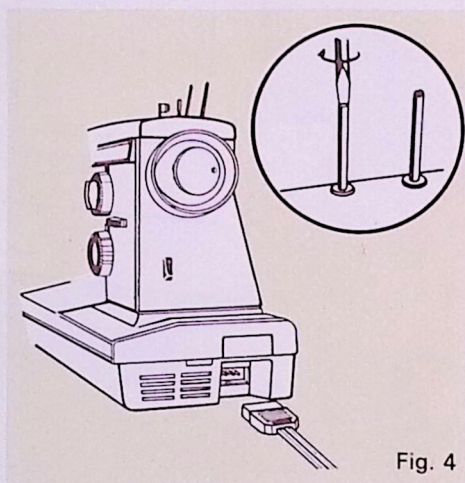

Fig. 4
3. Push the speed control plug onto three-prong connector. Plug machine cord into any 110-120 volt wall outlet. Turn on power by pushing light and power switch. (Fig. 4)
(See Fig. 3) with thread in proper place. Release spool of thread and continue to thread machine exactly as shown. Needle must always be threaded in direction as shown in Fig. 4.